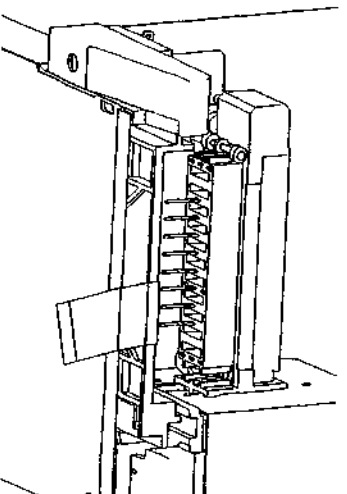

Fig.11
- **In washer working area (Fig. 11, 12 & 13):**
- Remove adhesive tape blocking plate carrier to bottom plate (fig. 11).